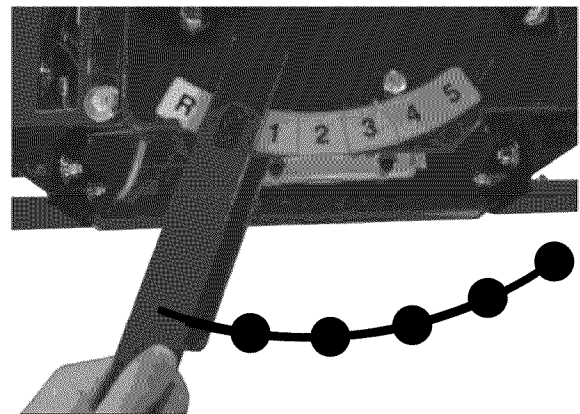

FIGURE 3.7
1. To engage transmission in a forward gear, move the transmission shift lever from the neutral ('N') position into the desired gear ('1' – '5'). See Figure 3.7.